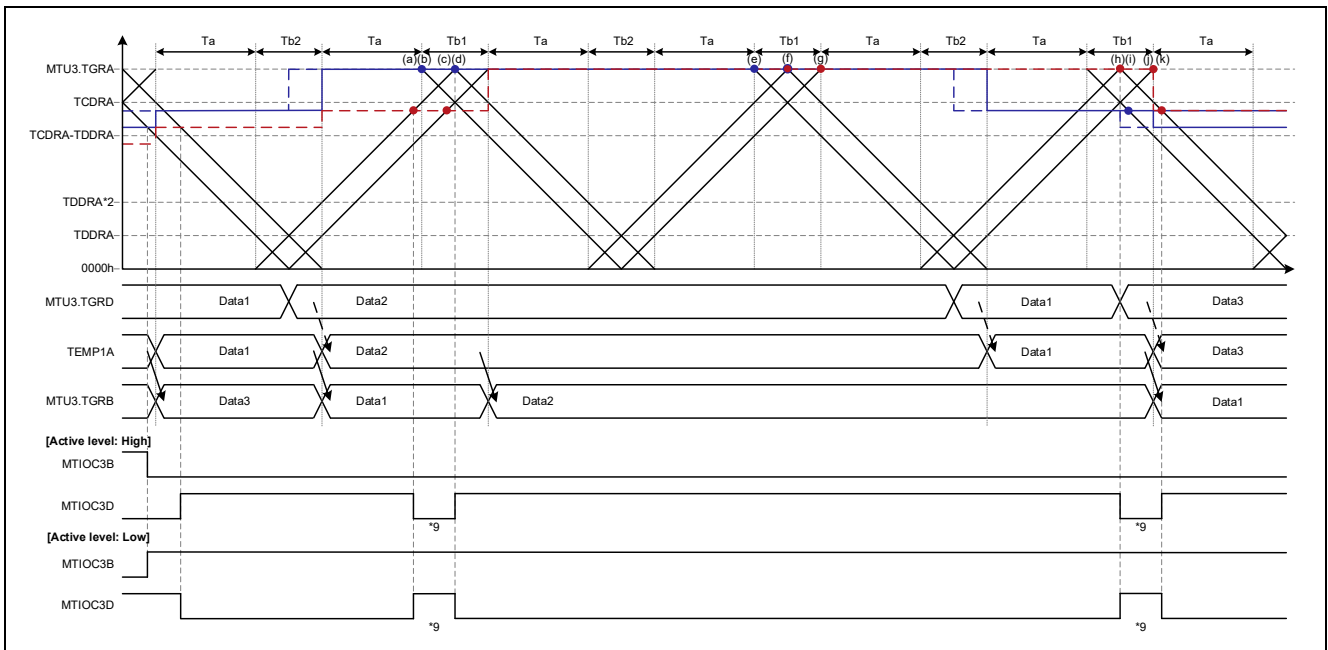

**Figure 1.55 Complementary PWM Mode 2 Operation Example
- [Operation example 2] Figure 1.55, Complementary PWM Mode 2, Output Start: Trough, Ta Interval Overwrite, caution 6
Figure 1.55 shows an operation example of buffer overwrite in the Ta interval in complementary PWM mode 2. Except for the difference in the buffer overwrite timing, the operation is the same as that shown in Figure 1.54.